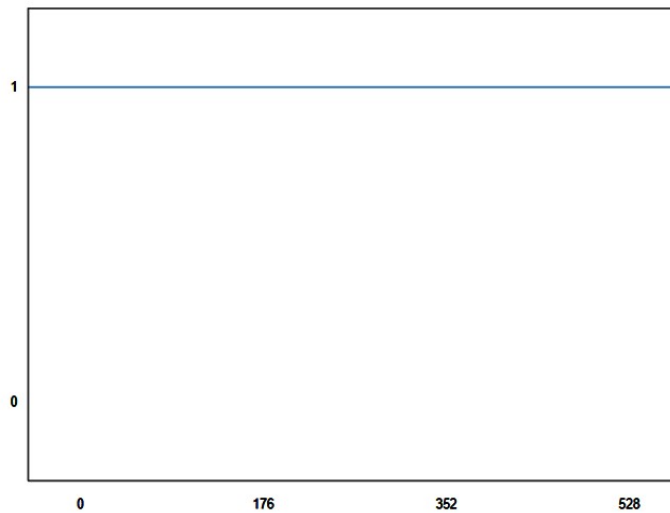

Figure 7: Output=1 always
4. **SPD= 8**, in this case our motors should have a rotation speed of 3000RPM, to obtain that speed we need to have V_{avg} equal to 220V , by substituting $T=176$ in the equation, $V_{avg} = \frac{220 * t_{on}}{T} = 220$ we obtain $t_{on} = 220$ which means that we have to keep our output 1 for the whole 176ms period, to do that we will have to set TMR2VAR to 44($44*4=176$) after the 176ms are done TMR2 will be disabled and TMR0 enabled but for 3000RPM we have to have our output=1 at all times so we will have to re-enable TMR2 and disable TMR0 and set TMR2VAR to 44 again, as in Figure 7